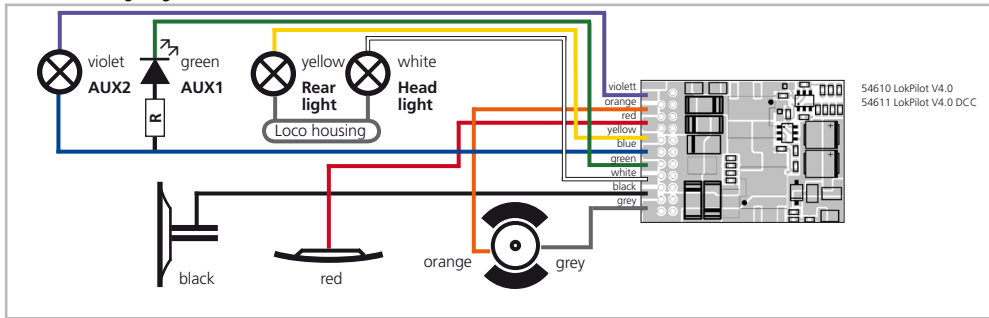

Figure 4: Wiring diagram for LokPilot V4.0, LokPilot V4.0 DCC (wiring example)
a) The lamps / function outputs are insulated from the common pole (ground) (i.e.: the locomotive chassis); therefore they are potential free. Fig. 4 shows the correct wiring for the outputs AUX1 and AUX2. The functions of the locomotive must be potential-free, in other words there may not be any other connection to the function besides the wires from the decoder. The voltage at these outputs is about 1.5V lower than the track voltage. The blue wire is the „plus-pole“; the function output the „minus-pole“.
If LEDs are installed (also refer to Fig. 4), then a resistor must be wired in series with the LEDs. It should have a rating of between 470 Ohms and 2.2 kOhms. Running the LEDs without this resistor will lead to their destruction!
It is possible to use both options in the same locomotive as shown in Fig. 4.